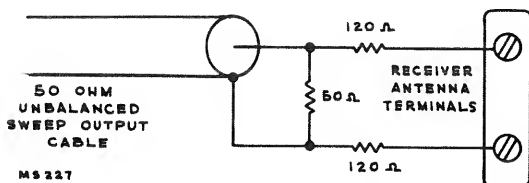

Figure 30—Method of Terminating Sweep Generator
**R-F AND CONVERTER LINE ADJUSTMENT**—Connect the r-f sweep oscillator to the receiver antenna terminals. If the sweep oscillator has a 50 ohm single-ended output, balanced output can be obtained by properly terminating the sweep output cable and by connecting a 120 ohm non-inductive resistor in series between the sweep output cable and each receiver antenna terminal. (See Figure 30.) Connect
**NOTE 2:** If sweep generator has "single ended" output, it will be necessary to disconnect the transmission-line jumper from the terminals adjacent to the r-f tube (V1). Feed the sweep signal in from either terminal to ground. The signal generator marker signal may then be fed into the unused terminal through a 5.6 mmf capacitor. An alternate method for connecting a "single-ended" sweep generator is to use the terminating arrangement shown in Figure 30, page 17.